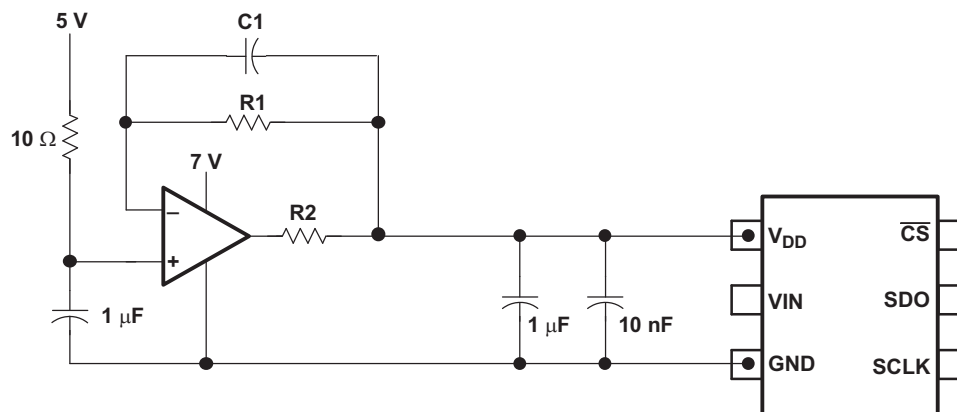

Figure 34. Buffering With the OPA735
- A low-pass filtered system supply followed by a buffer, like the zero-drift OPA735, can also be used in cases where the system power supply is noisy. Care must be taken to ensure that the voltage at the V_{DD} input does not exceed 7 V to avoid damage to the converter. This can be done easily using single supply CMOS amplifiers like the OPA735. Figure 34 shows one possible application circuit.